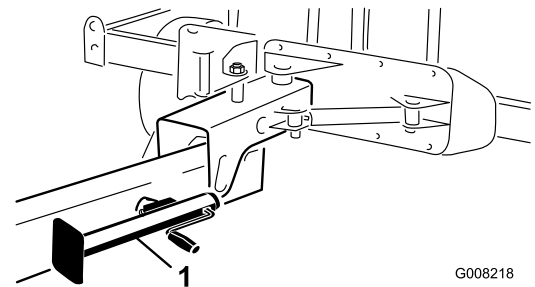

Figure 24
8. Lower the jack to the ground to stabilize the machine (Figure 24).